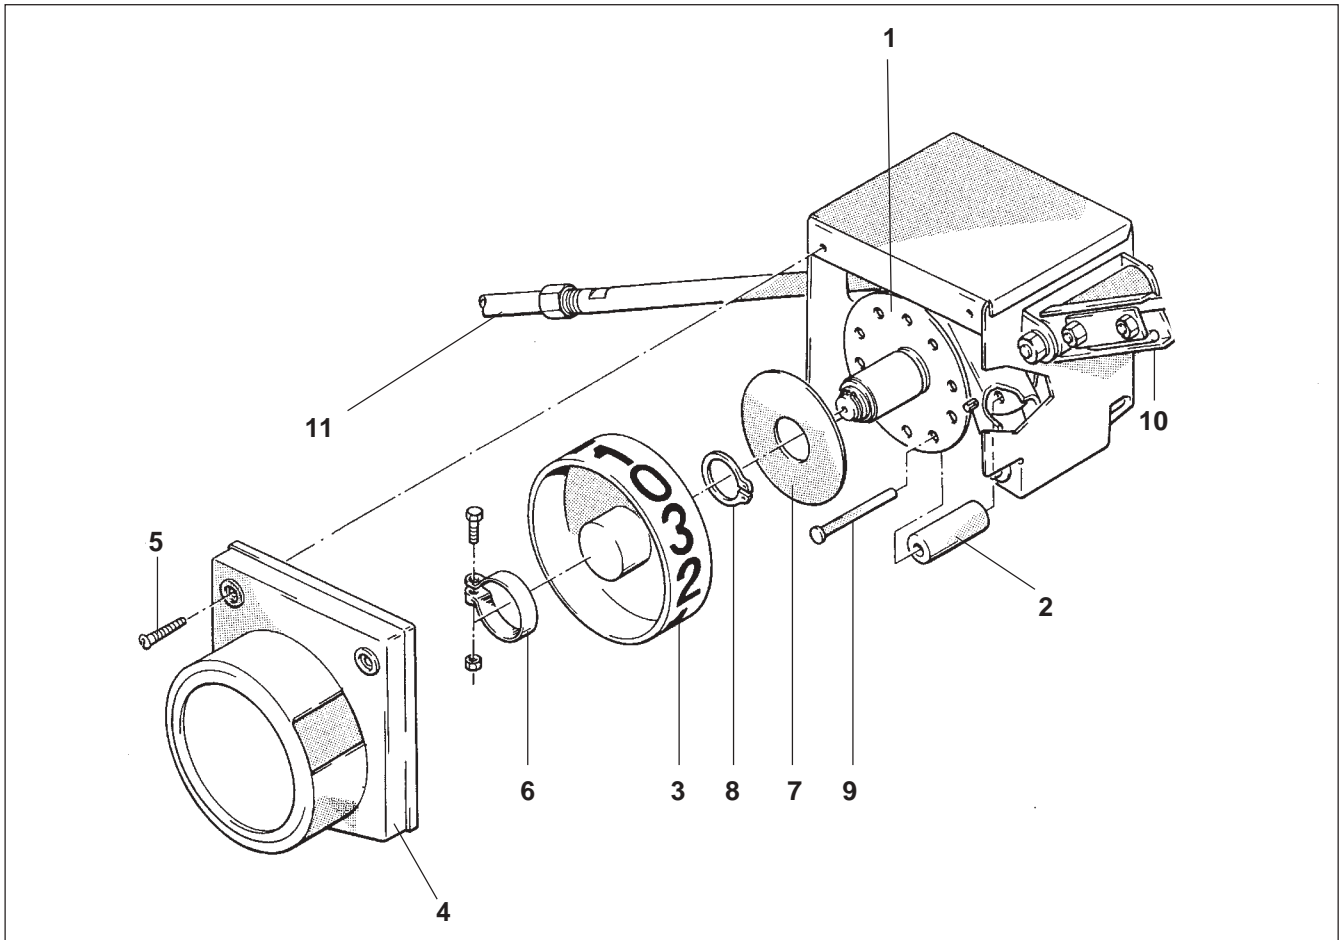

Fig. 26.40
- Fit safety disc (Fig. 26.40/7) and circlip (Fig. 26.40/8) .
- Apply new figure sticker onto display wheel (Fig. 26.40/3), as described in para. 26.11 and first loosely affix to the divider wheel with the aid of the clamp (Fig. 26.40/6) .
- Press lever (Fig. 26.40/10) so often downwards until the clamping tube (Fig. 26.40/11) is tightened and kept in position by a shifting roller (Fig. 26.40/2). Hold the protective cover (Fig. 26.40/4) against the switch box and turn the display wheel (Fig. 26.40/3) until the figure “0” can be seen inside the window of the protective cover.
- Clamp down the display wheel (Fig. 26.40/3) with the clamp (Fig. 26.40/6) and fit the protective cover (Fig. 26.40/4).
- Press lever (Fig. 26.40/10) so often downwards, until the display wheel (Fig. 26.40/3) has made at least three full turns and check, whether the switch box operates properly, e. g. whether in every “0”-position the clamping tube (Fig. 26.40/11) is pulling.